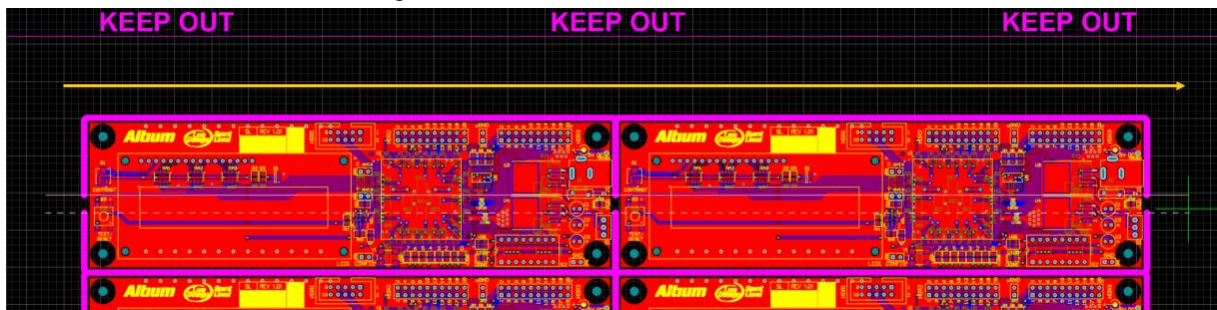

Figure 12. Horizontal slice across entire panel
26. Drag the slice all the way horizontally, across all the rows of the PCB instances of the panel, similar to what is shown in Figure 12.